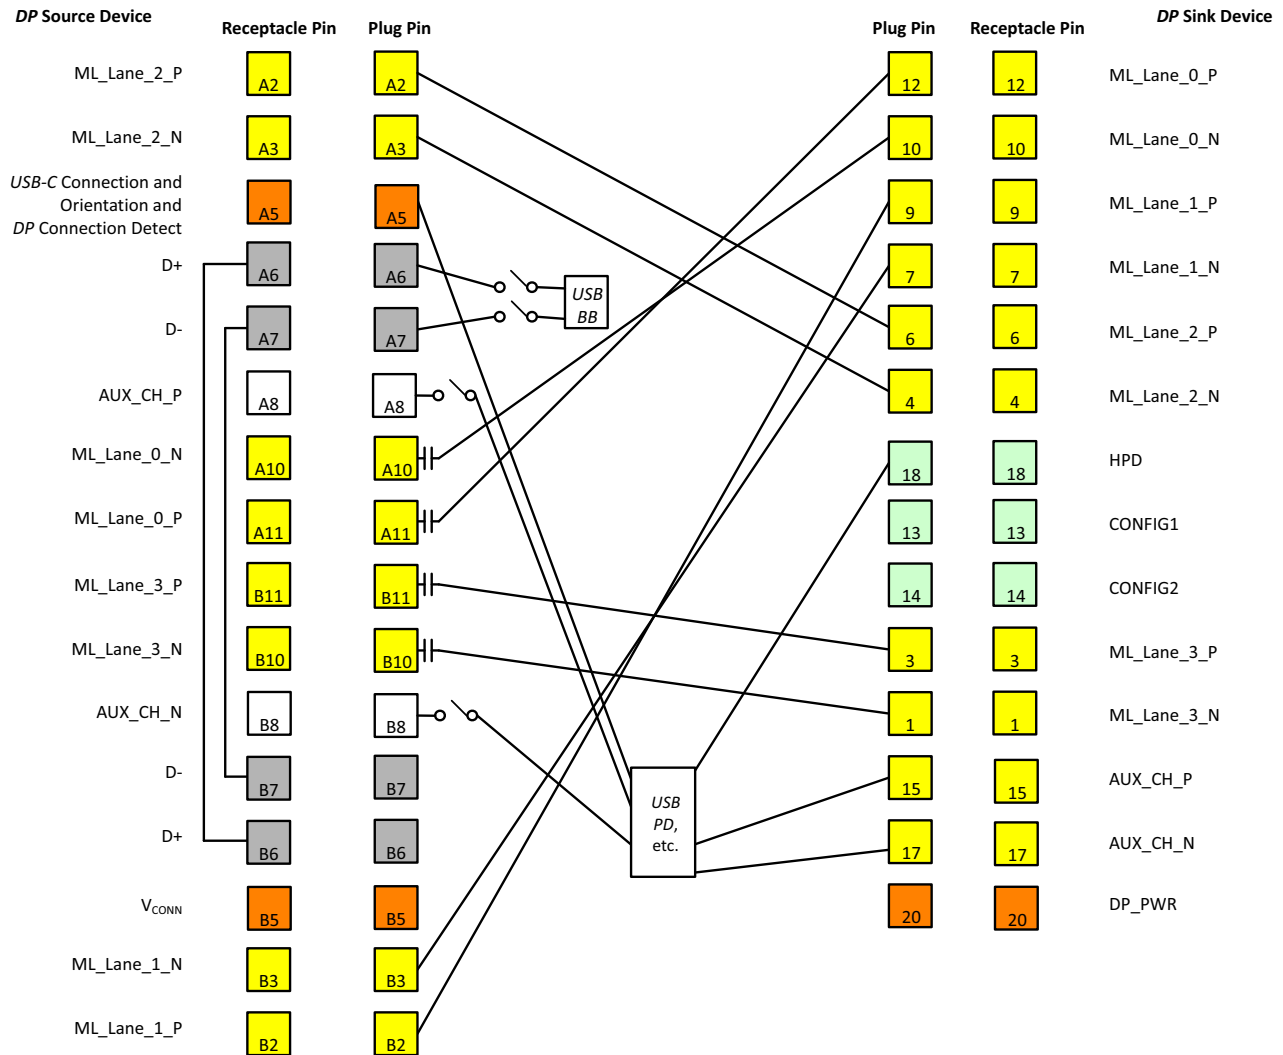
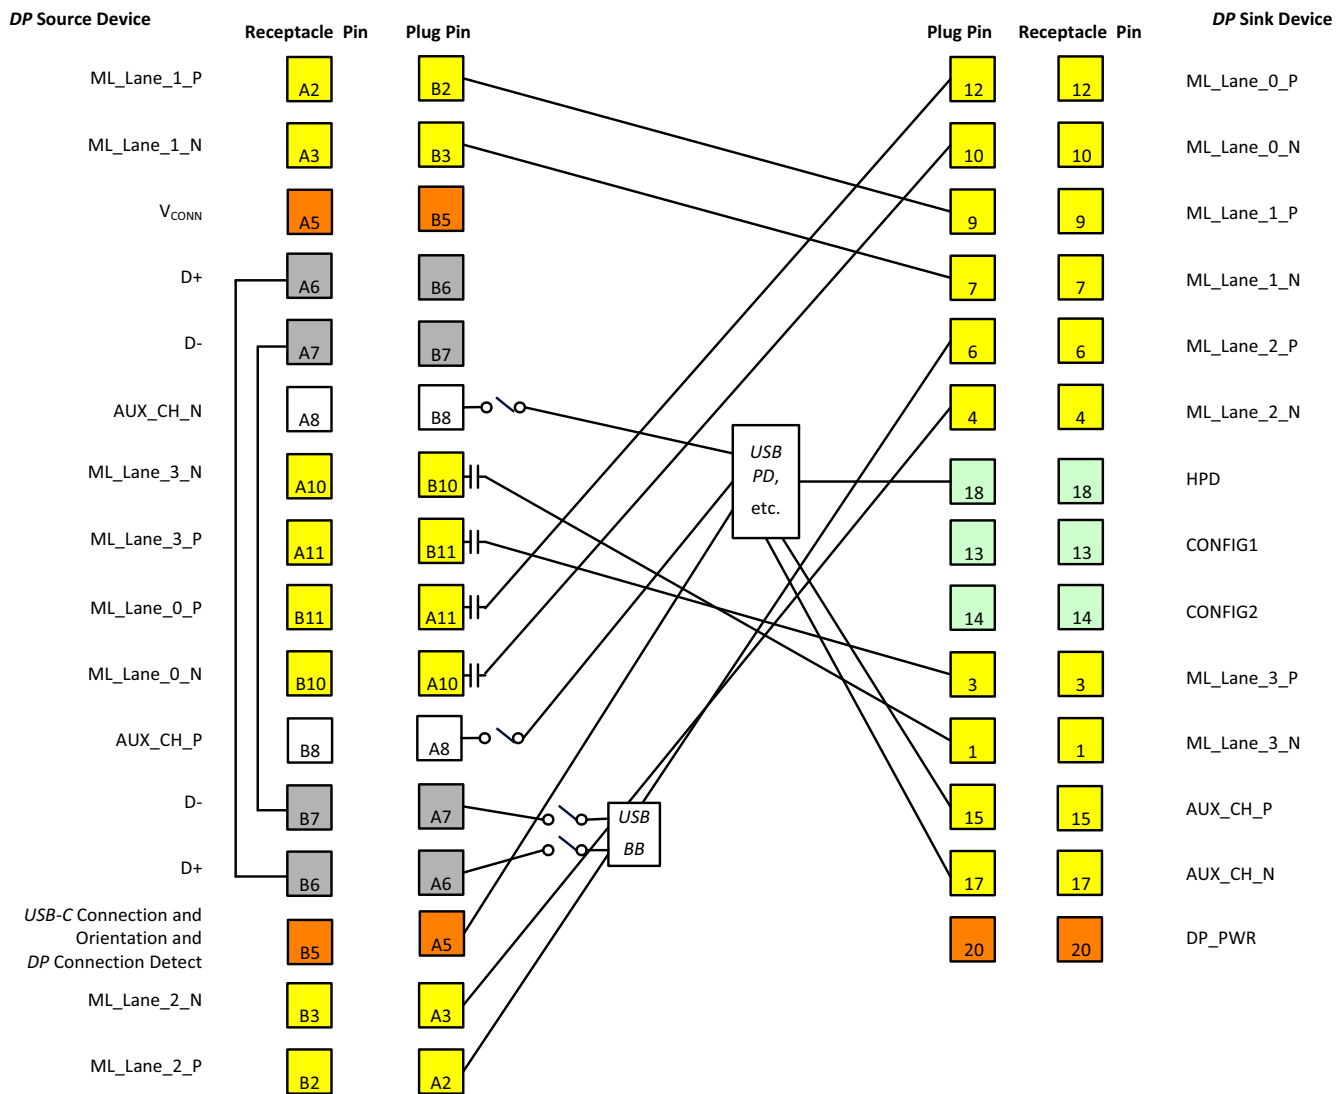

Figure 4-7: Scenario 2a Cable Wiring – Normal Plug Orientation on a Full-size DP Connector
Figure 4-8: Scenario 2a Cable Wiring – DP Source Device Flipped Plug Orientation on a Full-size DP Connector
This scenario uses *DP* Source device Pin Assignment E at the *DP* Source device (see Table 3-14 and Table 3-15). The pin numbering on the *DP* connector in Figure 4-7 and Figure 4-8 is that for a full-sized *DP* connector (see Table 4-5 for the mDP connector pin numbering). The following figures illustrate how *DisplayPort* uses the USB-C DP Source device-to-DP Sink device cable assembly's signal connections:
- Figure 4-7 illustrates this use when the *USB-C* plug is inserted in normal orientation
- Figure 4-8 illustrates this use when the *USB-C* plug is inserted in flipped orientation
Note: In Figure 4-7, the *DP* pin assignments assume that the *DP* Source device is at the *USB-C* system.
Note: In Figure 4-8, the DP pin assignments assume that the DP Source device is at the USB-C system.